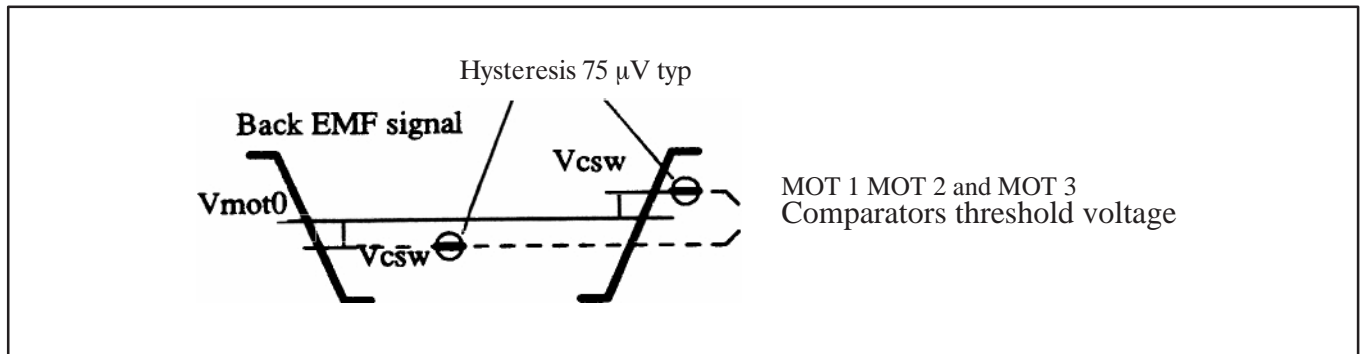

Figure 4.
3. Switching levels with respect to MOT1, MOT2 and MOT3. See Figure 4.